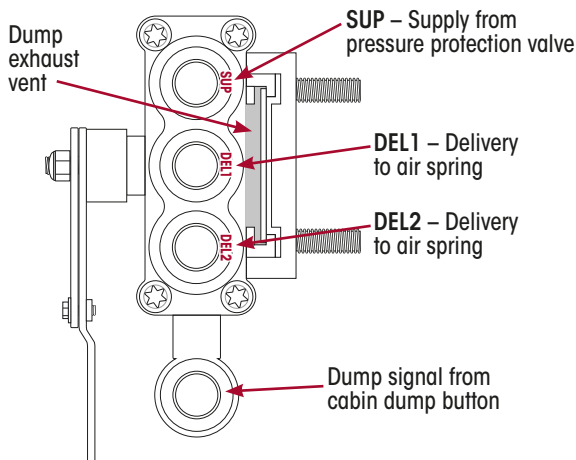

Figure 5: HCV Air Line Connections & Dump Vent
- B). The HCV has two delivery ports to the suspension air springs. Connect an air spring air line to either HCV "DEL1" or "DEL2" delivery port. Refer Figure 5. If only one delivery port is to be used the other port must be plugged.
different from the dump air vent, which is under a cover on the rear of the valve. Refer Figure 5.